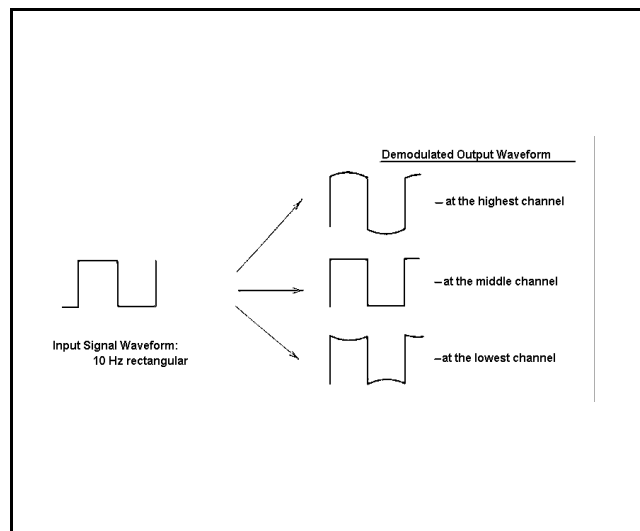

Figure 8 - Typical Rectangular Waveform of Demodulated Output
3. Change the signal to a 10 Hz rectangular waveform signal. Then, the demodulated output from the modulation analyzer should look like Figure 8. If the level adjustments under step 1 and 2 are out of balance, the rectangular waveform will be distorted (refer to Figure 8).